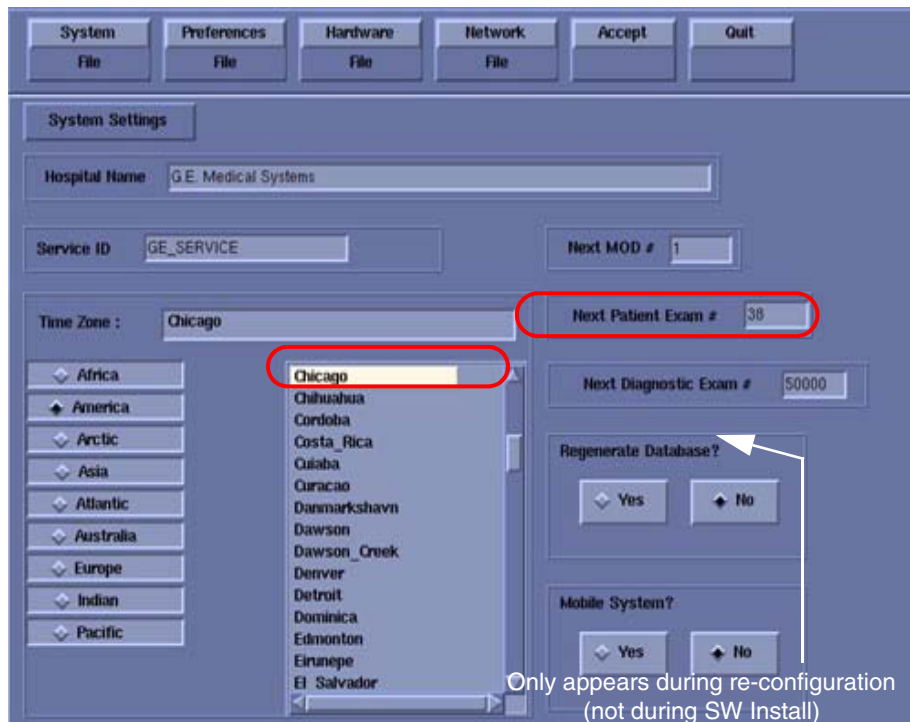

Figure 1-5 System Settings screen (Example)
- 8.) Click the SYSTEM button. See Figure 1-5 for an example.